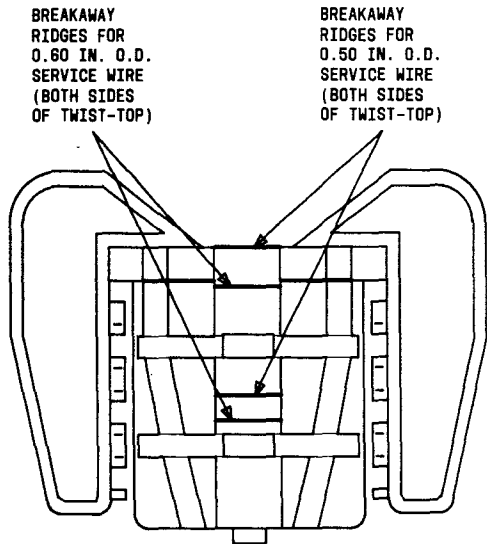

Fig. 5—Breakaway Ridges in Twist Top of D Service Wire Closure
0.040 inch od as received. For larger wire (up to 0.60 inch od), remove breakaway ridges as shown in Fig. 5.